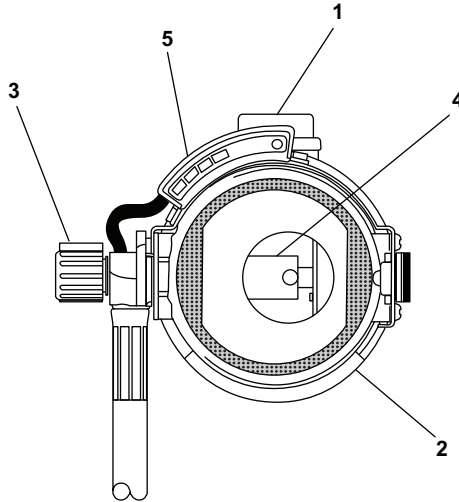

Figure 2-13. Depress Air Saver Switch
- b. Ensure that the air saver switch (figure 2-13, item 1) on mask-mounted regulator (figure 2-13, item 2) is fully depressed and that the purge valve (figure 2-13, item 3) is rotated fully clockwise until closed.
- d. The Vibralert (figure 2-13, item 4) shall actuate then stop. The HUD (figure 2-13, item 5), shall initialize with all five LEDs on for approximately 20 seconds then display the cylinder air pressure as a percentage of the air remaining.